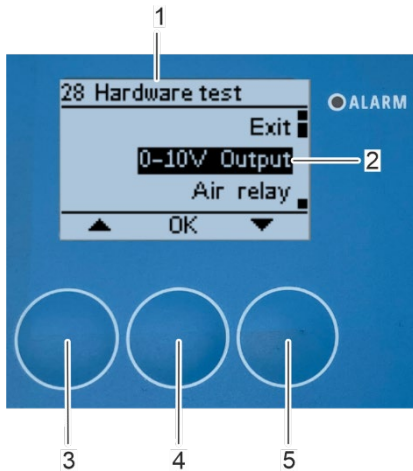

Fig. 141: Open submenu "0-10V output"
⇒ The "28 Hardware test" submenu (Fig. 141/1) appears on the display.
1. Select the "0-10V Output" submenu (Fig. 141/2) with the arrow keys [up] (Fig. 141/3) and [down] (Fig. 141/5).
2. Confirm the selection with [OK] (Fig. 141/4).